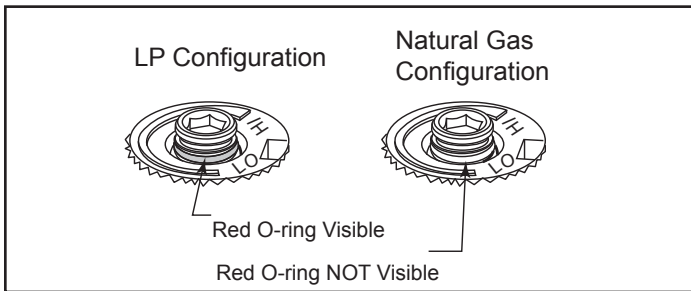

Figure 7.6
8. Verify that if the conversion is from NG to LP, the screw must be reassembled with the red o-ring visible. (Figure 7.6)